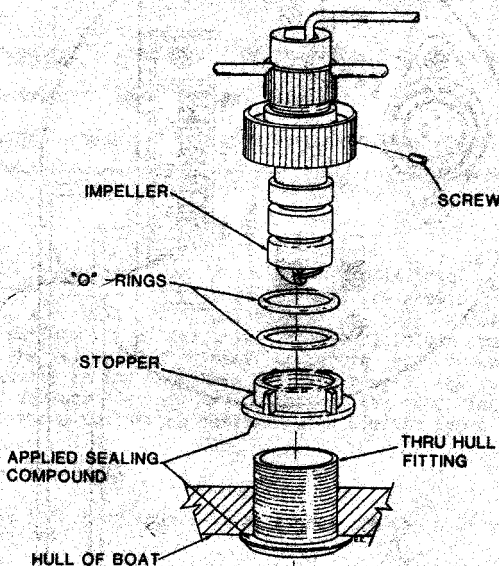

FIGURE 4. IMPELLER EXPLODED PARTS VIEW
4. Reassemble the impeller as shown in Figure 4, making sure that sealing compound and a washer is on both sides of the hull.
Operation of the speed log is accomplished through the following stages, as illustrated in Figure 4.